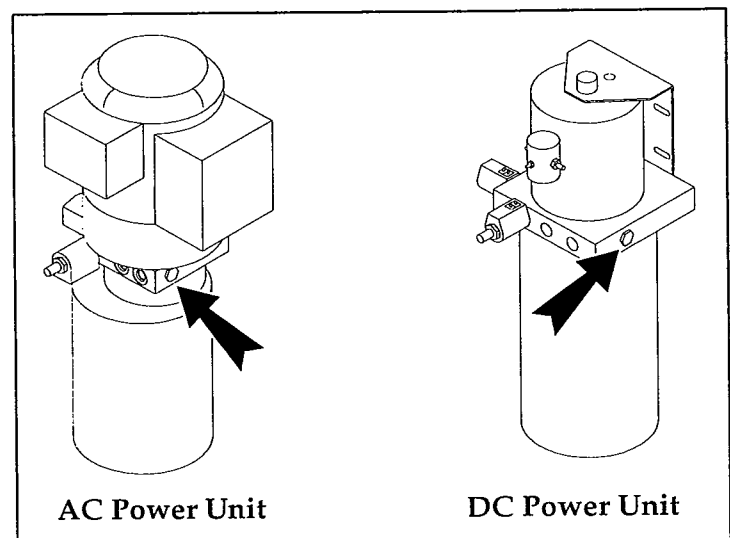

Figure 4-4: System Relief Valve
4.4 Setting System Relief Valve (Figure 4-4)